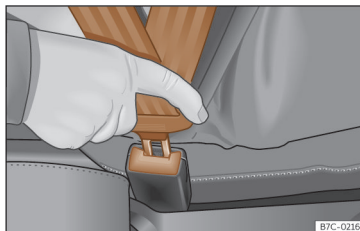

Fig. 19 Insert the latch plate of the seat belt into the buckle.
- Fasten the latch plate in the corresponding buckle»» Fig. 19 .